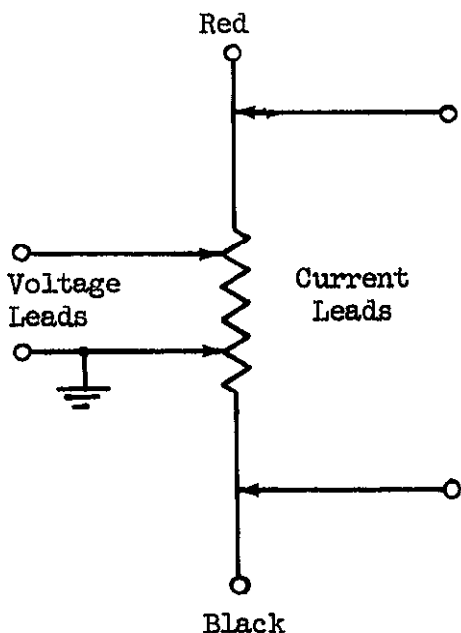

Figure 2
4. CONNECTIONS: Each test lead set has two clips, one with a red insulator and the other with a black insulator. When making connections use both test leads, making sure clips with like color insulators are on the same side of the sample. (Refer to Figure 2) This is necessary to avoid meter readings below zero.